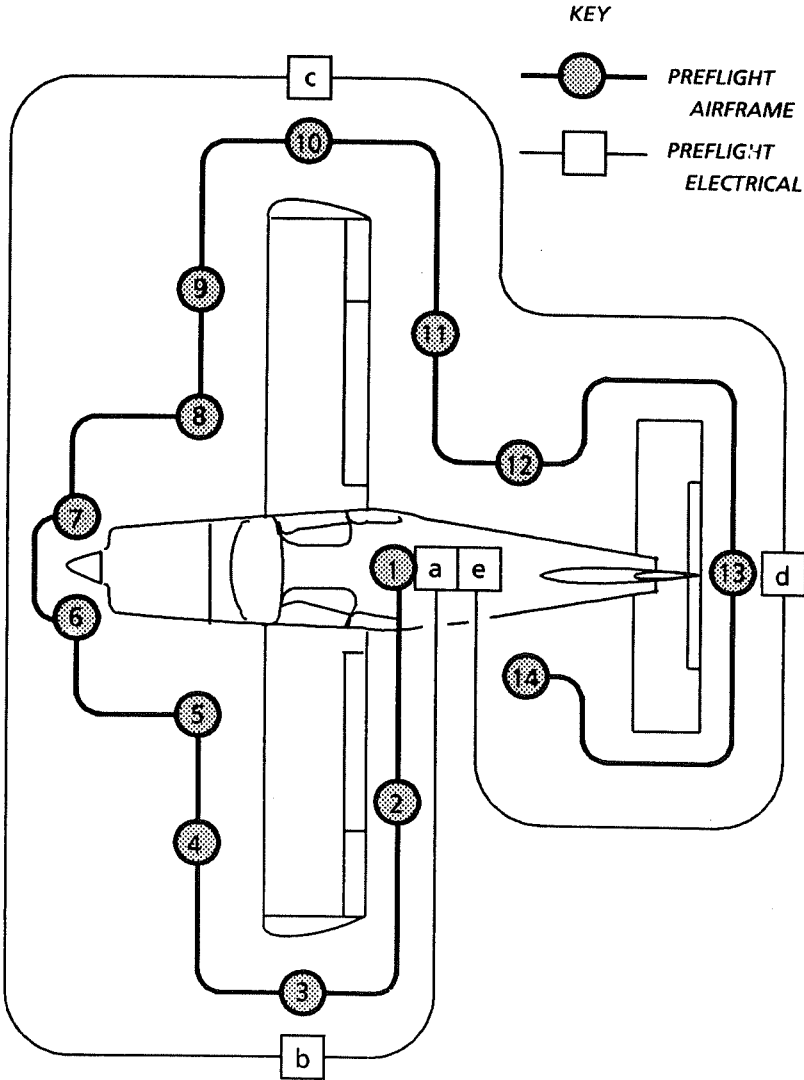

Figure 4.1 - PREFLIGHT INSPECTIONS
**PREFLIGHT INSPECTIONS ( See Figure 4.1)**